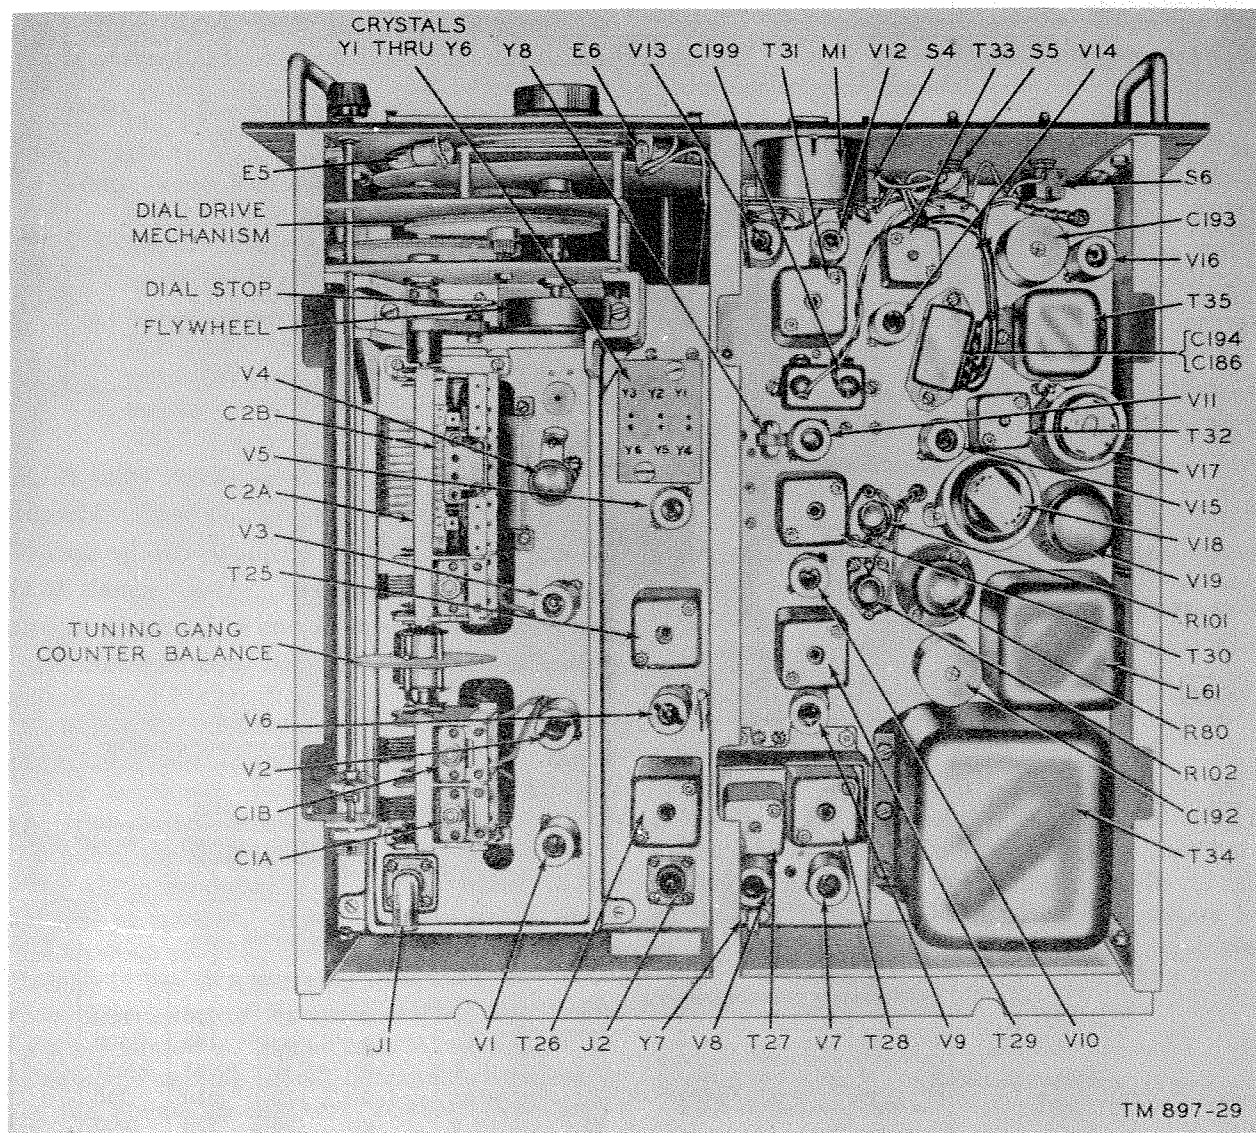

Figure 31. Radio Receiver R-274/FRR, chassis, top view.
a. *Tuning Gang Capacitors* (fig. 31). First, remove capacitors C1A and C1B (1st and 2d r-f sections). Disconnect the leads and ground straps. Loosen the two setscrews on the rear end of the shaft coupling with the Allen wrench supplied with the receiver. Next, remove the three chassis-mounting screws and slide the gang to the rear. It may now be taken from the chassis. To replace, reverse the above procedure. The coupling remaining on the end of capacitor C2A (mixer section) shaft is also a disk mounting for counter-balance weights. Capacitors C2A and C2B are removed in the same manner as capacitors C1A and C1B.